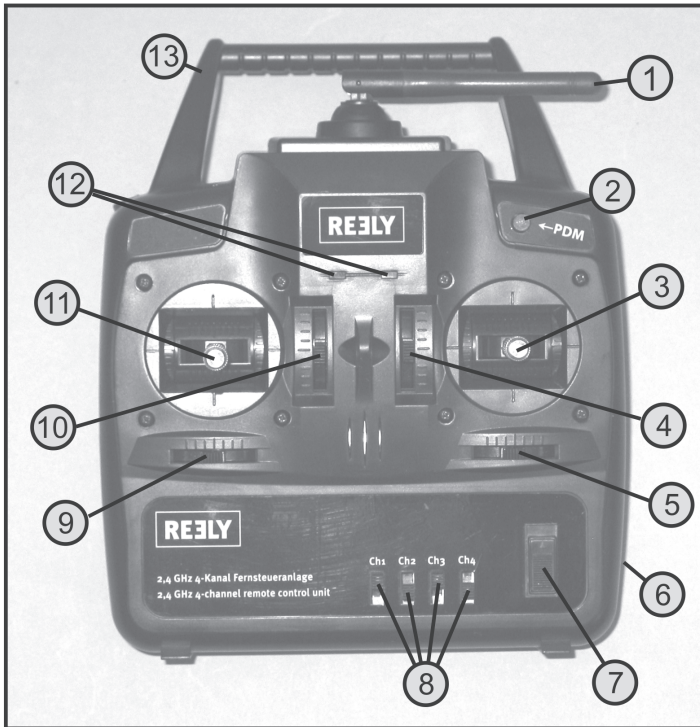

Figure 3
Angle the transmitter's aerial (see figure 3, item 1) to the side, so that the aerial is at a 90° angle to the connection line remote control/model. This is how you will achieve best signal transmission. Avoid directing the tip of the transmitter aerial directly at the model.
When new batteries or freshly charged rechargeable batteries have been inserted, switch on the transmitter with the function switch (see figure 3, item 7) for test purposes. First, the red LED for voltage supply display is lit (see figure 3, item 12); shortly afterwards, the green LED lights up of the binding function between transmitter and receiver is performed correctly. Both LEDs thus signal proper transmitter function.
Put the transmitter into operation and connect the flight battery (4) to the flight controller's plug (5) protected against polarity reversal. The trimming lever for the engine function (see figure 3, item 11) must be in the bottom-most position for this.
If the control stick for the elevator and aileron functions (see fig 3, item 3) at the transmitter is moved up and down, the elevator (6) must deflect downwards and upwards.